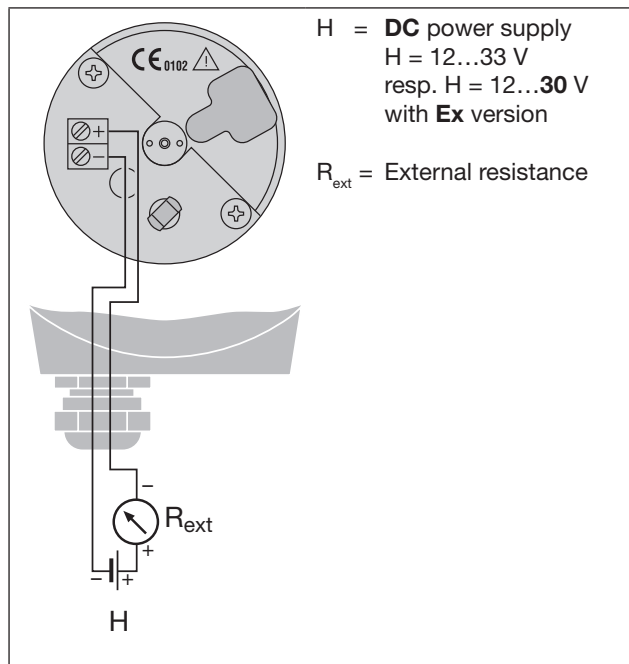

Fig. 9. Connection diagram.
Strip the insulation from a suitable length of the leads and connect them to the terminals (5) according to the wiring diagram (Fig. 9). Attach the leads to the support (6) with a cable strap.